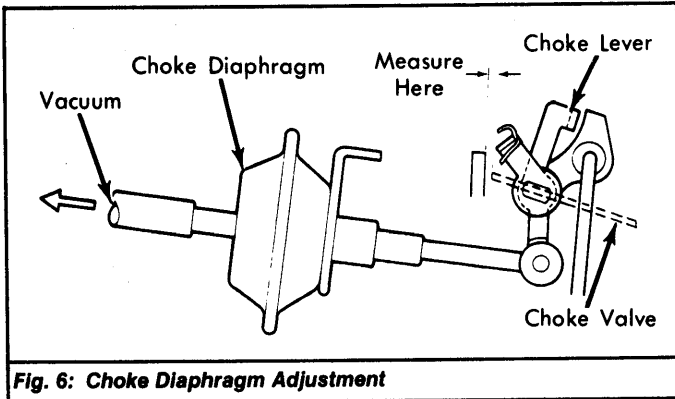

Fig. 6: Choke Diaphragm Adjustment
2) Opening angle should be 11-15 degrees and clearance should be .035-.049" (.90-1.25 mm) with a preferred clearance of .041" (1.05 mm). If not within specifications, bend choke lever. See Fig. 6.